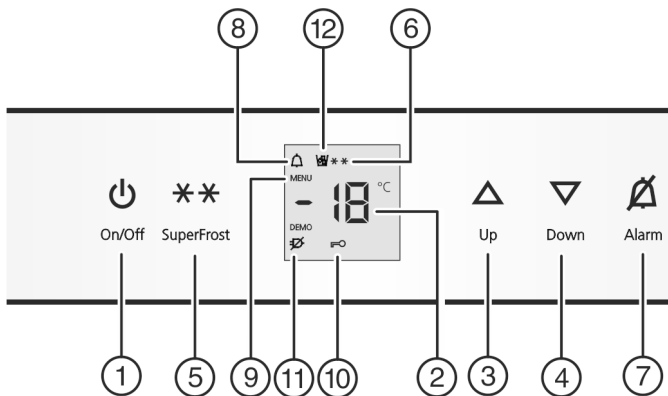

Fig. 2
- Press On/Off button *Fig. 2 (1)*.
- To activate the setting mode: press SuperFrost button *Fig. 2 (5)* for about 5 s.
- ▷ The menu symbol *Fig. 2 (9)* shines.
- Briefly press the SuperFrost button *Fig. 2 (5)* to confirm.
- To activate the child lock, briefly press the SuperFrost button *Fig. 2 (5)*.
- ▷ The child lock symbol *Fig. 2 (10)* shines. **c** flashes in the display.
- To deactivate the child lock, briefly press the SuperFrost button *Fig. 2 (5)*.
- ▷ The child lock symbol *Fig. 2 (10)* goes out. **c** flashes in the display.
- To deactivate the set-up mode: press On/Off button *Fig. 2 (1)*.
- Press alarm button *Fig. 2 (7)*.
The temperature display and the alarm symbol *Fig. 2 (8)* flash at the same time.
The audible alarm is automatically silenced, the alarm symbol *Fig. 2 (8)* goes out and the temperature display stops flashing when the temperature is sufficiently cold again.
- To set the temperature higher: press Up button *Fig. 2 (3)*.
- To set the temperature lower: press Down button *Fig. 2 (4)*.